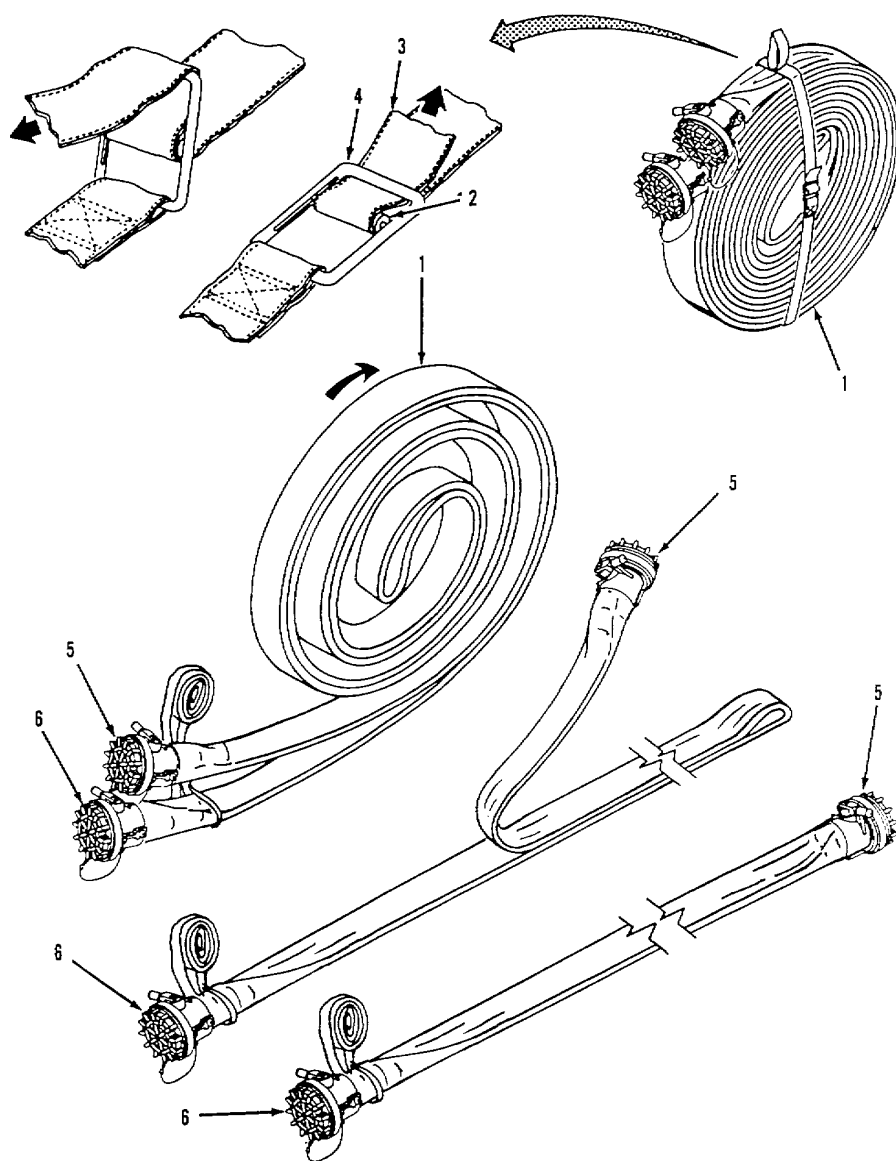

Figure 2-22. Rolling Fuel Hoses.
- (10) Disconnect fuel hose (11) from tee (3).
- (11) Disconnect fuel hose (10) from elbow (9).
- (12) Disconnect elbow (9) from fuel hose (8).
- (13) Disconnect two fuel hoses (7 and 8) from tee (5).
- (14) Disconnect fuel hose (6) from tee (5).
- (15) Disconnect tee (5) from fuel hose (4).
- (16) Disconnect fuel hose (4) from tee (3).
- (17) Disconnect tee (3) from fuel hose (1).
- (18) Disconnect quick disconnect end of fuel hose (1) from HEMTT tanker fuel outlet (2).
- (19) Prepare HEMTT tanker for movement in accordance with TM 9-2320-279-10-1.
- f. Rolling Fuel Hoses. Refer to figure 2-22.
- (1) Stretch out fuel hose (1). Remove all twists so that hose lays flat.
- (2) Fold fuel hose (1) in half so that dry break couplings (5 and 6) are positioned at one end of hose.
- (3) Roll fuel hose (1) from folded end to dry break couplings (5 and 6). Keep hose halves aligned so that a tight roll is obtained.
- (4) Position hose strap (3) around rolled fuel hose (1).
- (5) Place tag end of hose strap (3) through bottom of buckle (41, around slide (2) and back out buckle as shown.